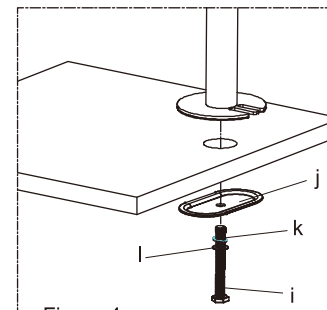

Figure 4
2. Position the Pole(a) on the mounting surface and secure using the Support Plate(j), M10 Washer(k), Spring Washer(l), and M10 Bolt(i). Fasten the M10 Bolt using the provided Wrench(p), see Figure 4.